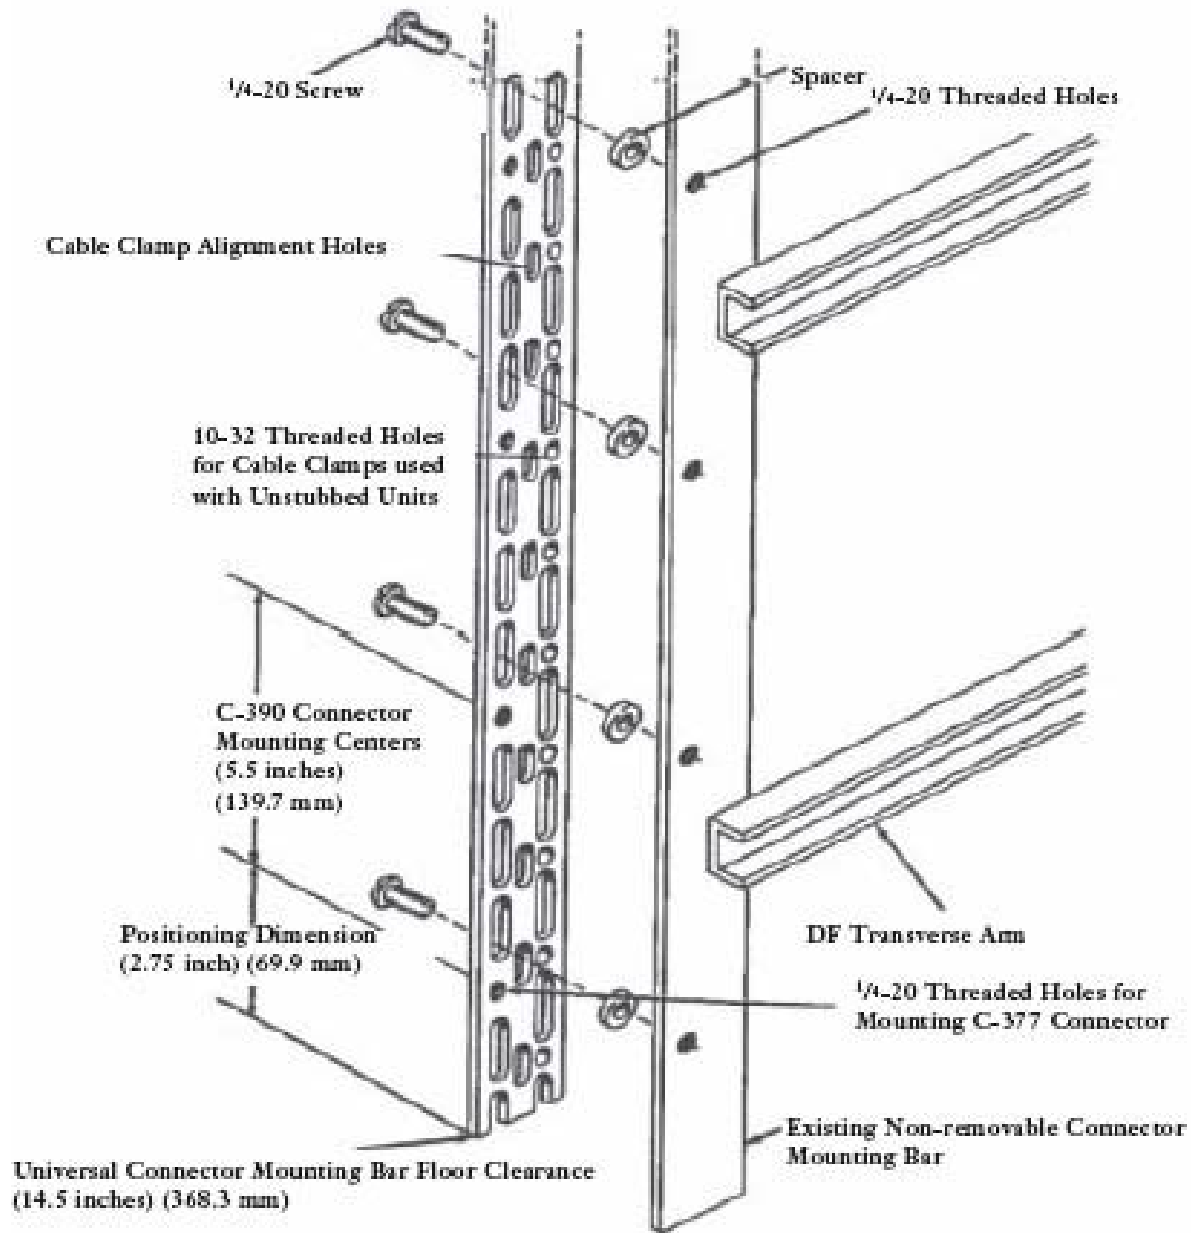

Figure 4
- 4.5 If the existing connector mounting bar cannot be removed, the universal mounting bar is bolted directly over the existing. The spacer washers (included with the mounting hardware) must be installed between the universal connector mounting bar and the non-removable bar to provide clearance for the tips of the connector mounting screws. The universal connector bar should not extend beyond the edge of the existing bar, if possible (Figure 4).